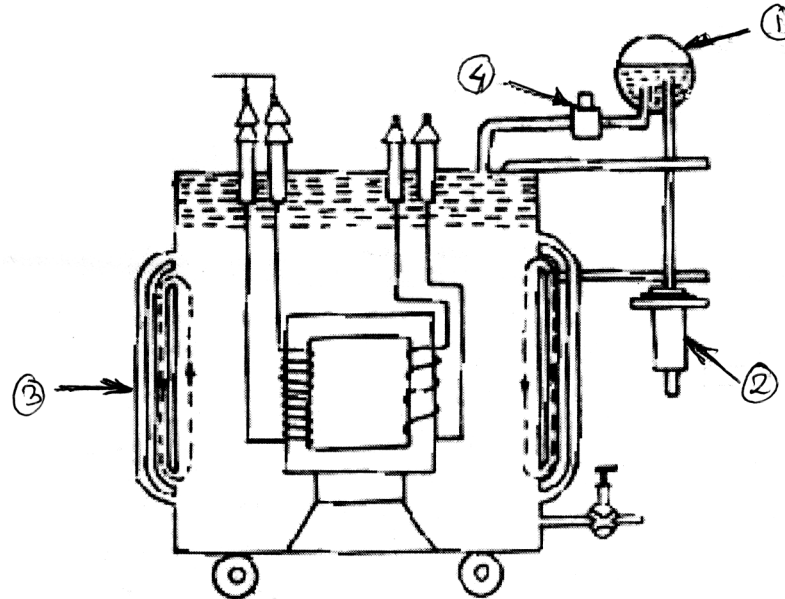

Fig. No. 3
- f) Identify the parts shown in the diagram of a transformer in Figure No. 3.